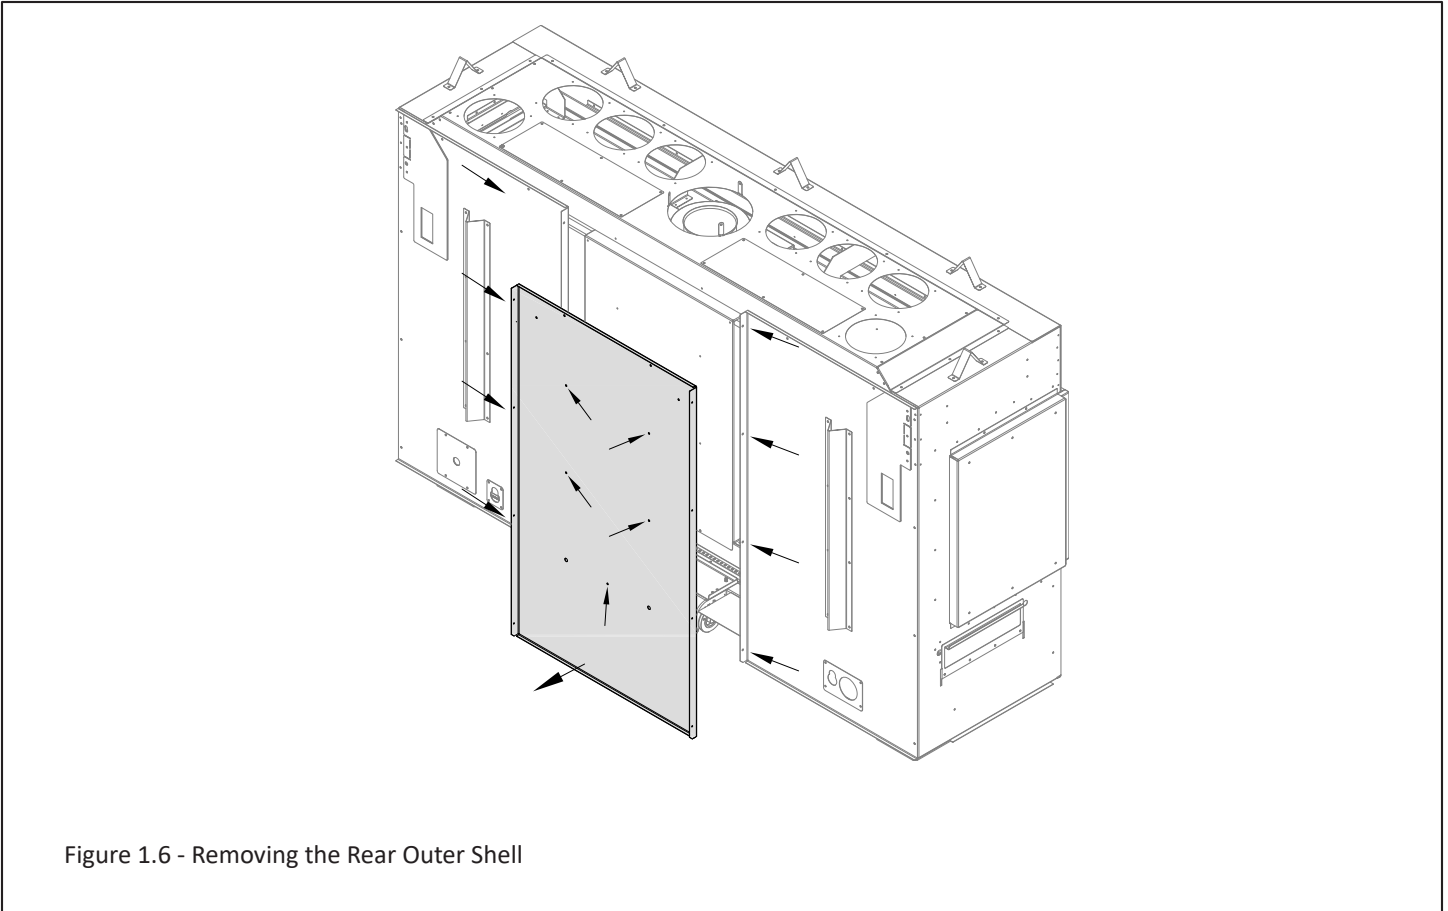

Figure 1.6 - Removing the Rear Outer Shell
- We recommend installing the power vent wire harness before the fireplace is installed in the framed opening. You may find it easier to temporarily remove one of the back outer shell panels of the fireplace. By removing this panel you can get greater access to the electrical box, the ability to route the cable away from the rear mounted fan and help direct the cabling towards the SIT IFC. Figure 1.6 shows the middle back panel of the Generation 7220. The Generation 6020 will look similar.